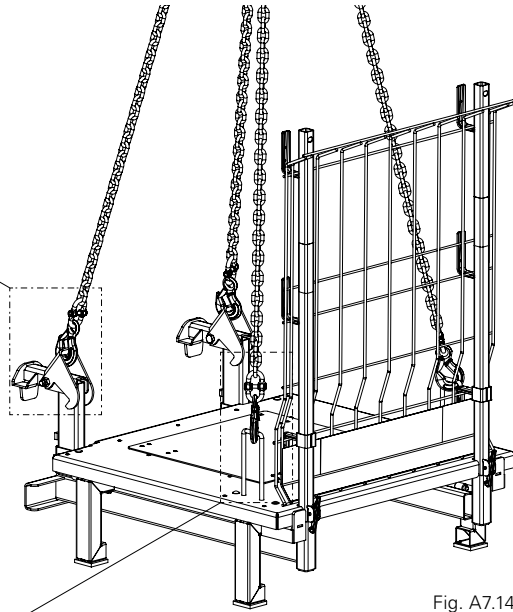

Fig. A7.14
2. Attach crane hook of the 4-sling lifting gear to the suspension beam (63.3) – 2x. (Fig. A7.14 + A7.14a + A7.14b)